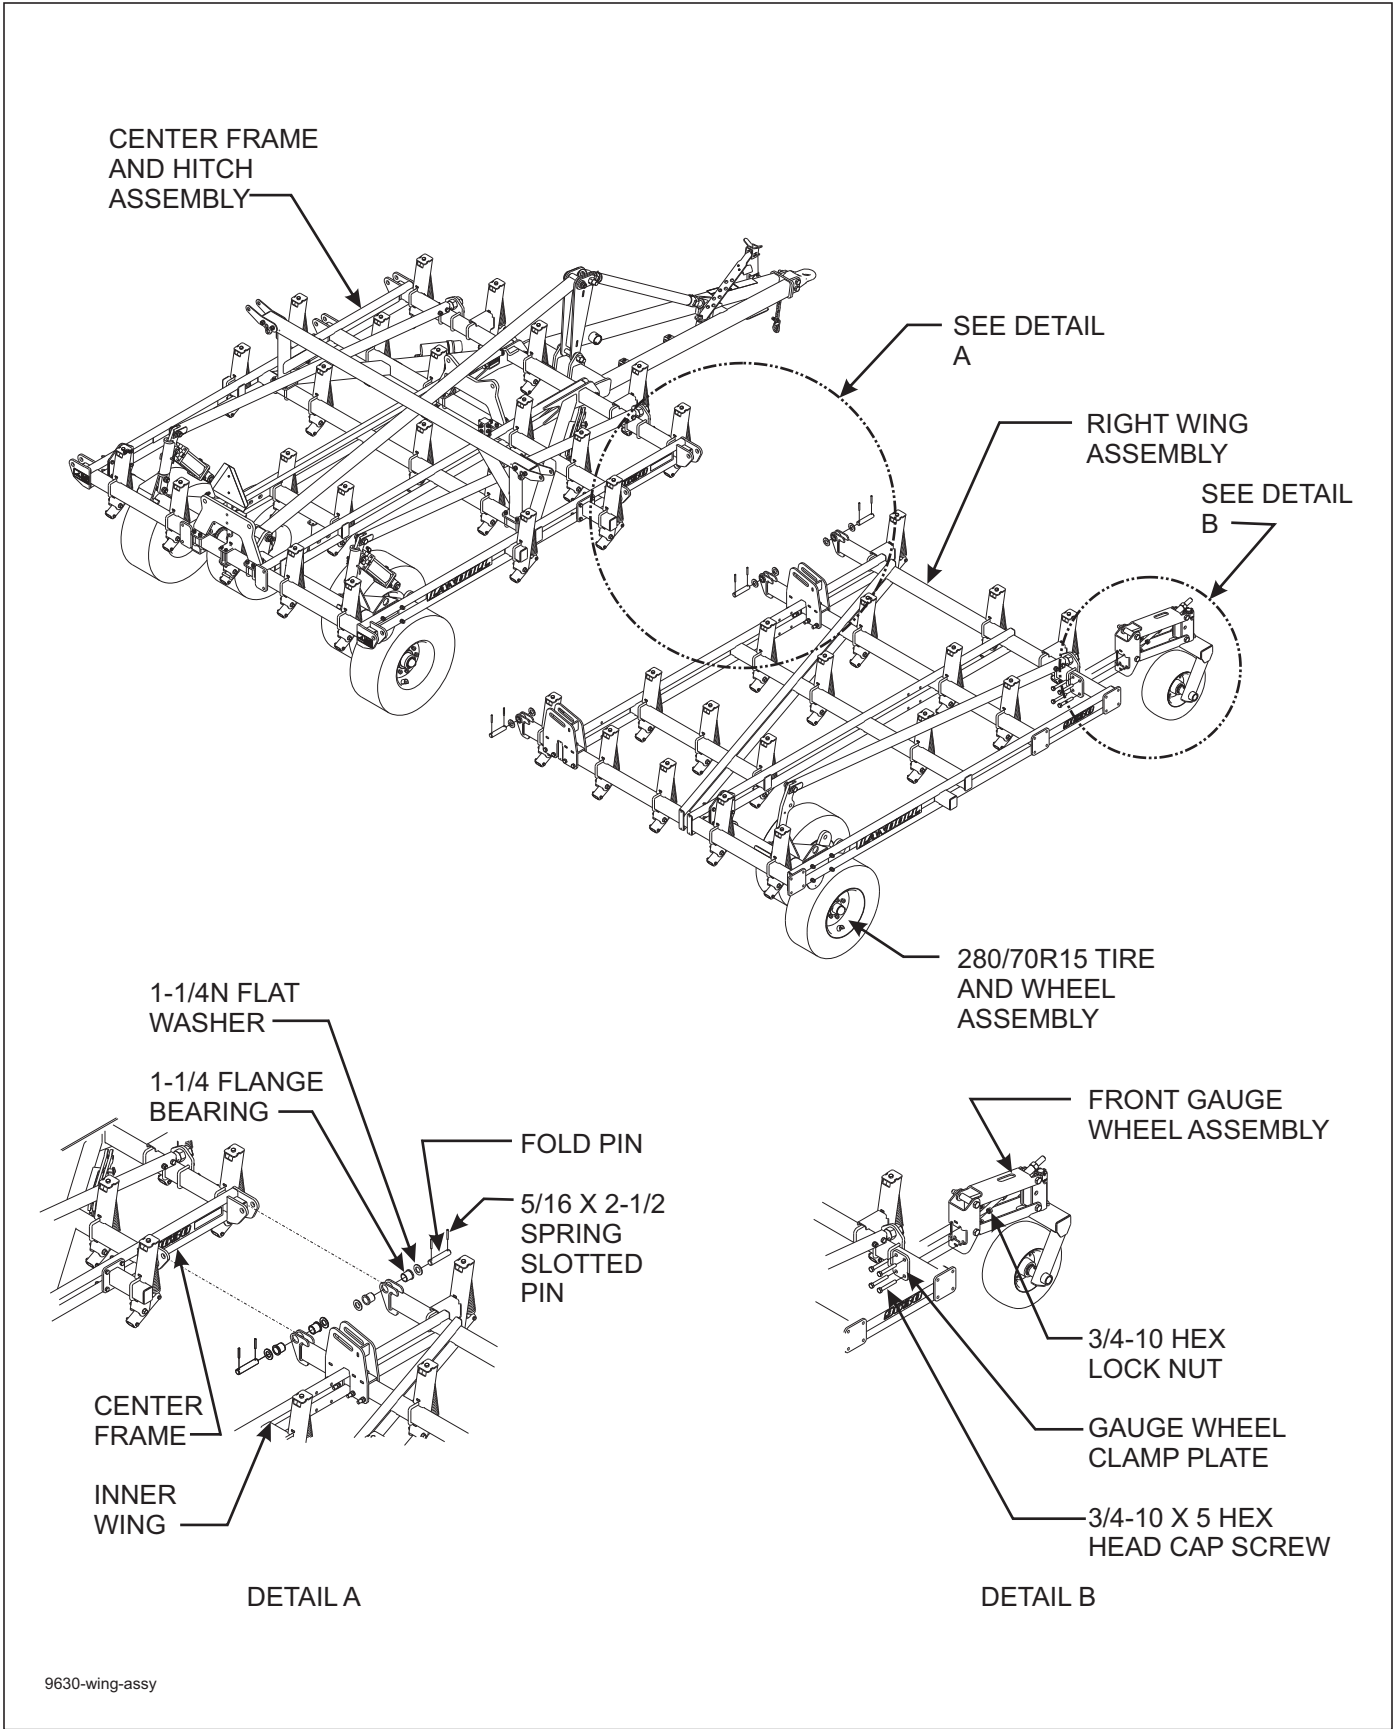

Figure 3-4: Wing Assembly
1. Attach wing frames to center frame using 1-1/4 flange bearings, flat washers, fold pin, and 5/16 x 2-1/2 spring slotted pins See Figure 3-4.
2. Install tire and wheel assemblies on hubs See Figure 3-4.
1. Attach front gauge wheel assemblies to the wings using gauge wheel clamp plate, 3/4-10 x 5 hex head cap screws, and hex lock nuts See Figure 3-4 For front gauge wheel placement, See Figures 2-10.